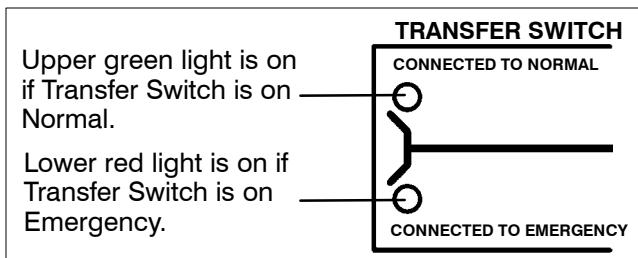

Figure 3-2. Status lights for Transfer Switch main contact position.
1. Observe which Transfer Switch *Connected To* light is on (*Normal* or *Emergency*) on the door. This is the position of the transfer switch (see Figure 3-2).